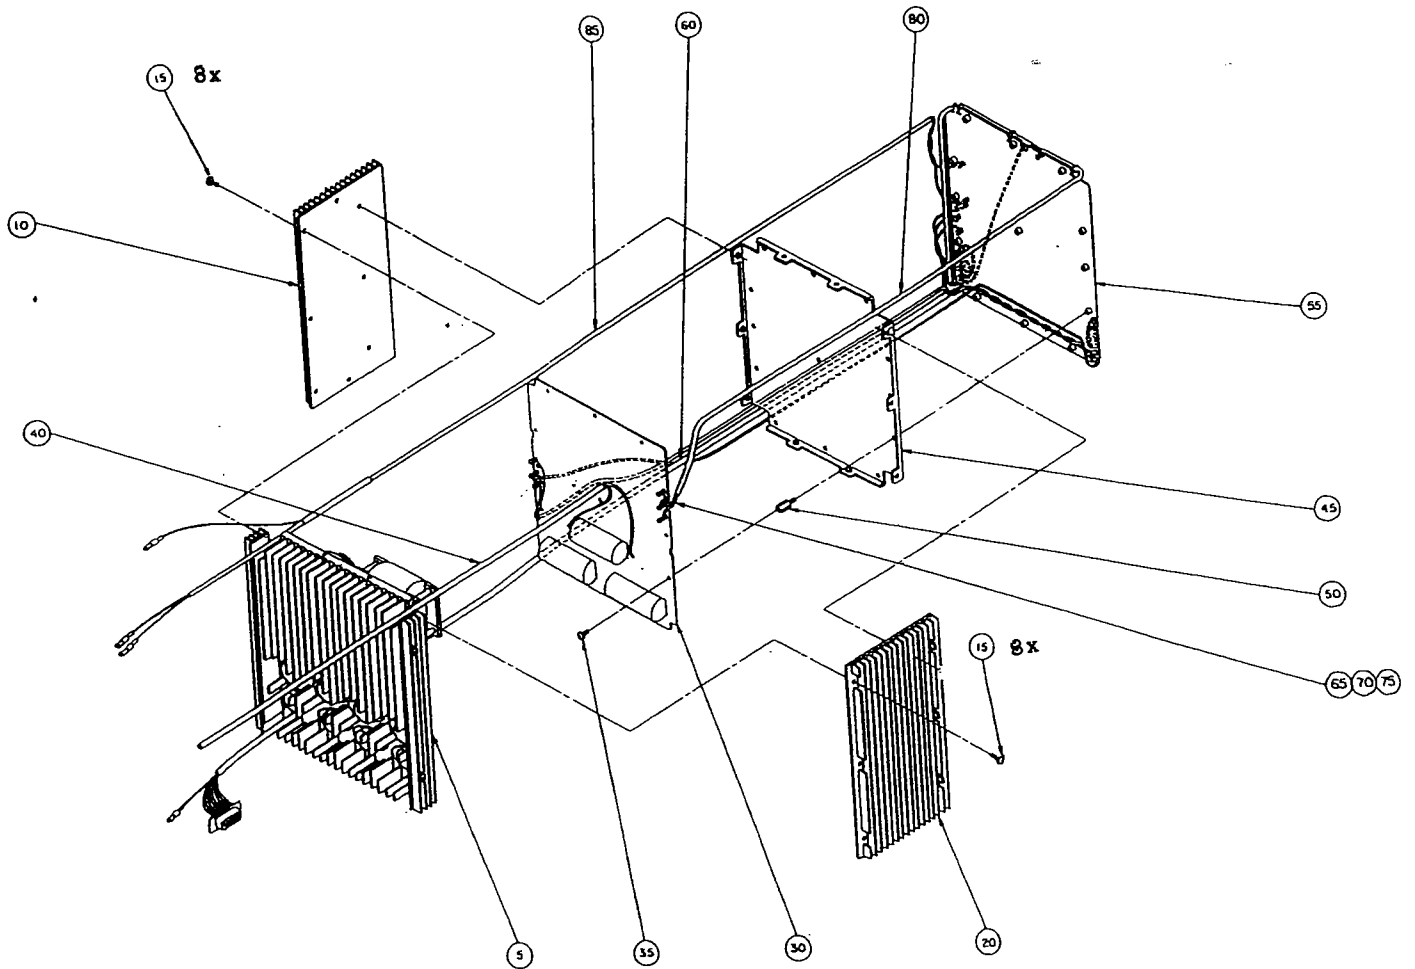

FIGURE 2
13. Using figure 2, locate the 16 screws, item 15, securing side plates items 20 and 10.
14. Remove eight screws (15) and remove the sideplate heatsink (10).
15. Remove eight screws (15) and remove the sideplate heatsink (20).
20. Using figure 2, locate side plate item 20. Install item 20 using the eight screws, item 15.
21. Using figure 2, locate side plate item 10. Install item 10 using the eight screws, item 15.